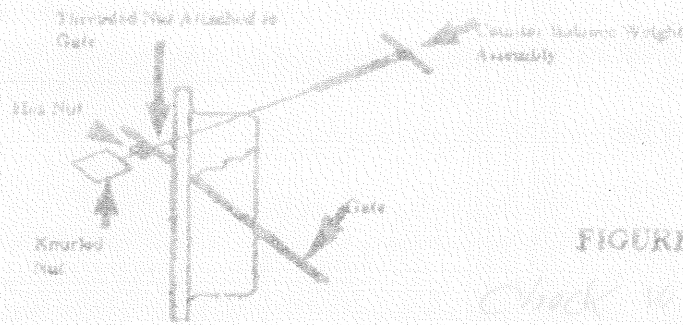

FIGURE 3
- Step 3: Adjustable VRV balance weights onto gate. Screw the weight all the way up. Then attach lock nut and lock nut. See Figure 3.